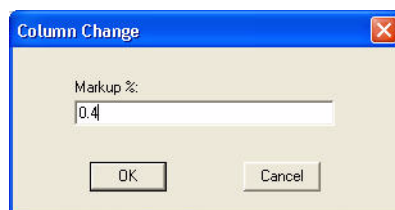

Figure 5-17 The Column Change dialog box.
8. Enter 0.40 in the **Markup %** box, as in Figure 5-17, and click OK.